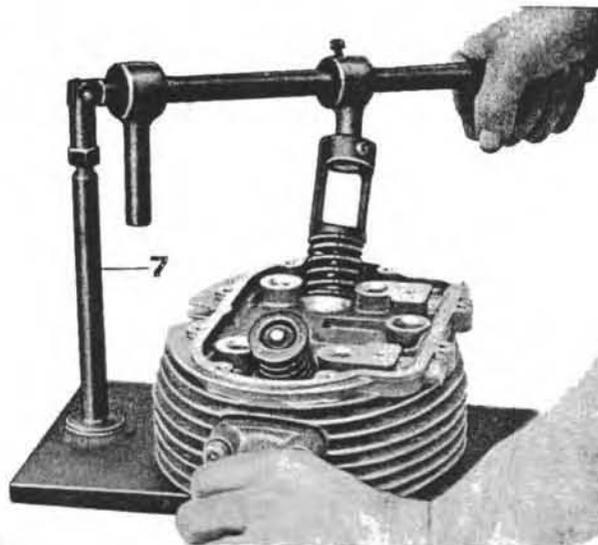

Fig. 13
- cylinder heads c/w valves and remove gasket. Using tool No 60907200 (see 7 on Fig. 13) remove from cylinder head the semicones, top collars, springs, bottom collars and then extract valves from inside.
Position cylinder head on tool No. 60907200 (see 7 on Fig. 13) and with the arm of same press on the valve top collar so to remove semicones, top collar, spring, bottom plate and, from inside cylinder head, the valve.